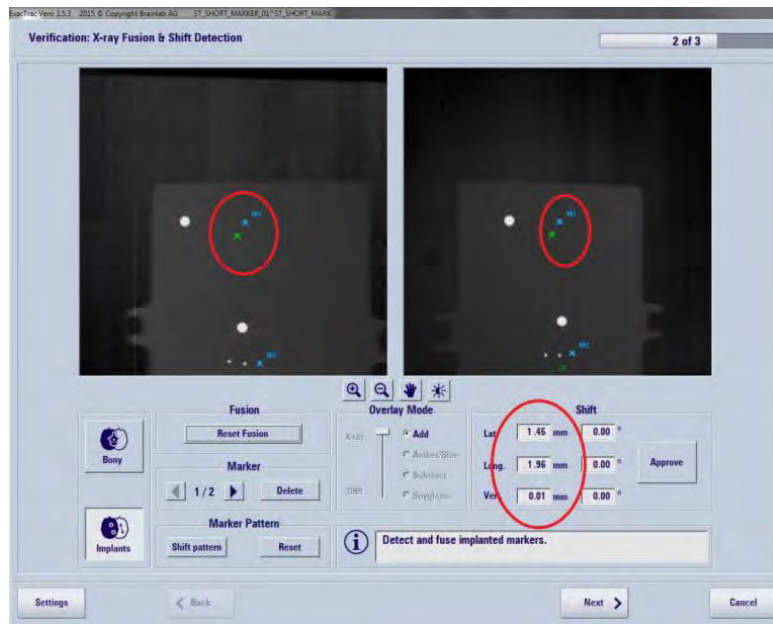

Figure 2:: Screen indicating the above described issue
- After pressing “Fuse Marker”, a deviation above the usual tolerances between the planned marker positions (green) and the detected marker positions (blue) is displayed by ExacTrac Vero. Corresponding correction “shifts” and possibly correction angles are indicated (see Figure 2).